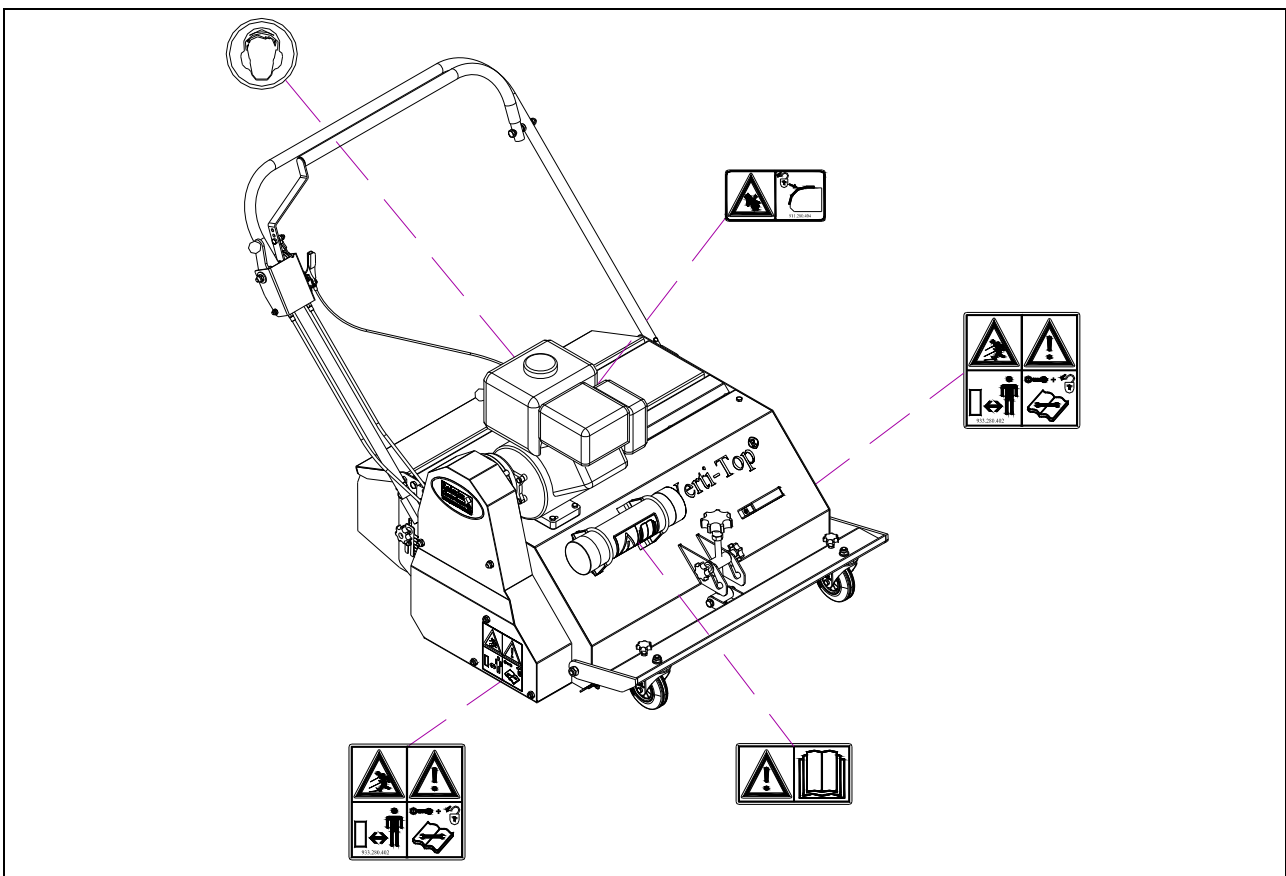

Figure 8
Safety stickers with an identical meaning are attached to the sideboard, and near the front and rear cover (Figure 8) of the Verti-Top Walk Behind. These safety stickers must always be clearly visible and legible and must be replaced in case they have become damaged.
(7) Location of the safety stickers (Figure 8).